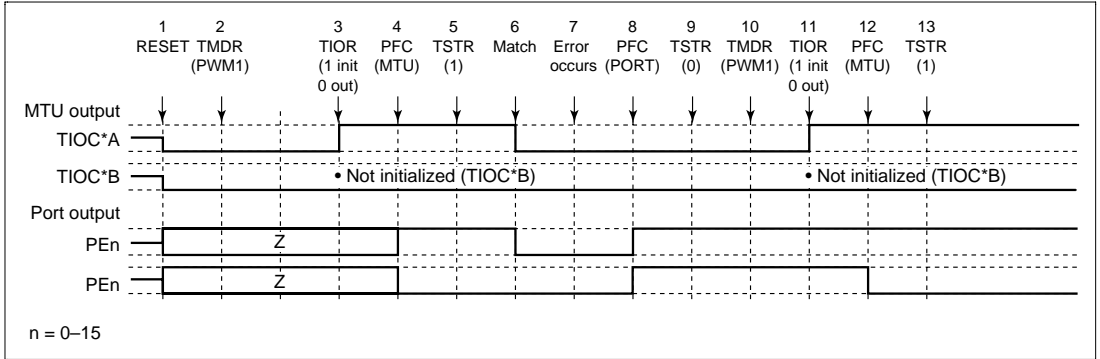

Figure 10.65 Error Occurrence in PWM Mode 1, Recovery in PWM Mode 1
(6) Operation when Error Occurs during PWM Mode 1 Operation, and Operation is Restarted in PWM Mode 1: Figure 10.65 shows an explanatory diagram of the case where an error occurs in PWM mode 1 and operation is restarted in PWM mode 1 after re-setting.